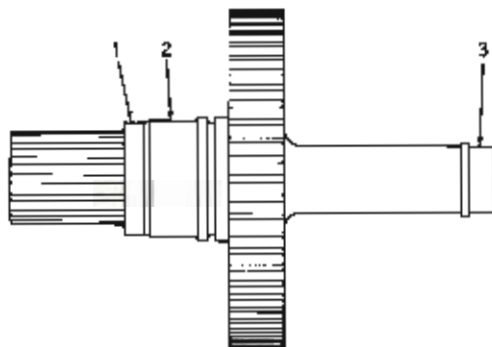
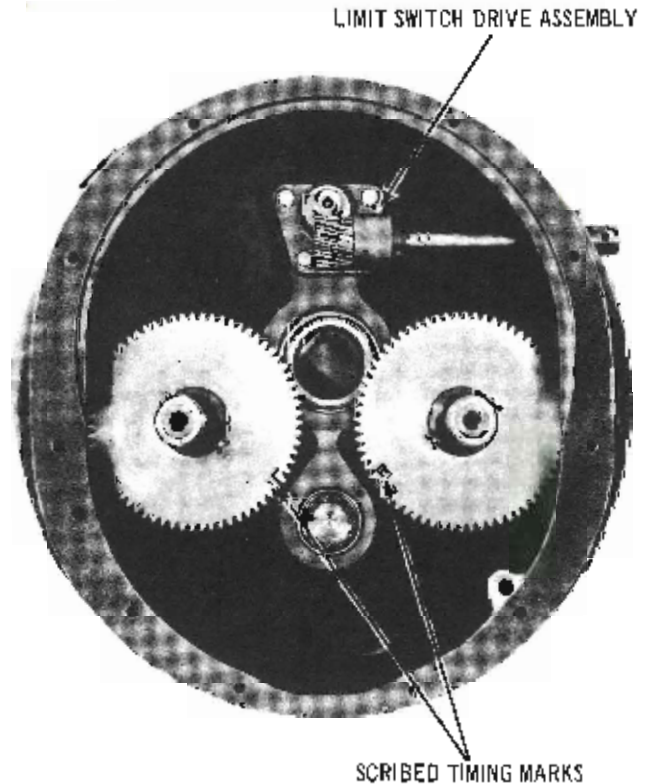

Figure 5-14. Drum Pinion Shaft Assembly, R.H. Shown
Figure 5-15. Gear Case Assembly Timing Marks
5. Shrink bearing inner race (2, Figure 5-14), shoulder first, on the right and left hand drum pinion shafts until tight against the shoulder of the shaft. Shrink on ring spacer (1) tight against the inner race. Install inner race (3) on the opposite end of shaft. Install the right and left hand drum pinion shaft assemblies in the gear case. Do this carefully so the oil seals in the gear case are not damaged. THE MATCH MARKS ON THE GEAR CASE AND ON THE INTERMEDIATE GEARS MUST BE IN PERFECT ALIGNMENT as shown in Figure 5-15. Note that left and right gears are identified by the letters L and R.